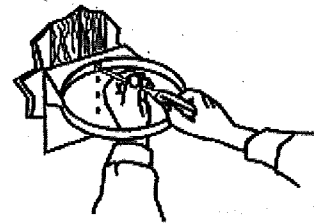

Figure 3
STEP 1: Install the mounting bracket (figure 3). Mounting location should be directly above the standpipe, wall box or laundry tub. The height should not exceed 72 inches from the floor and no more than a 45 degree angle for the bottom discharge hose.